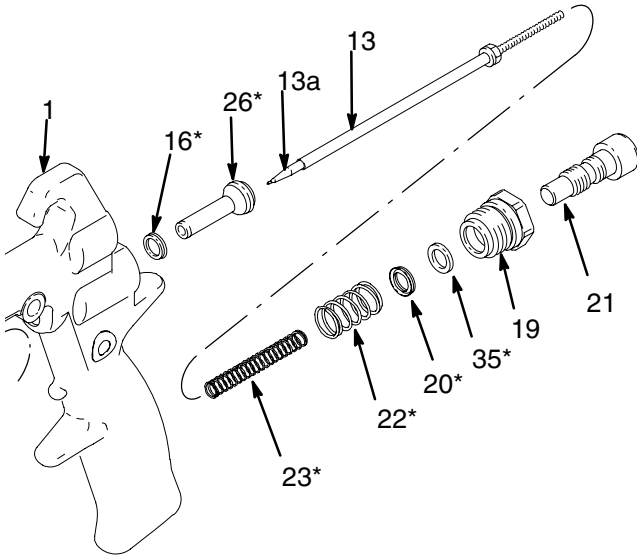
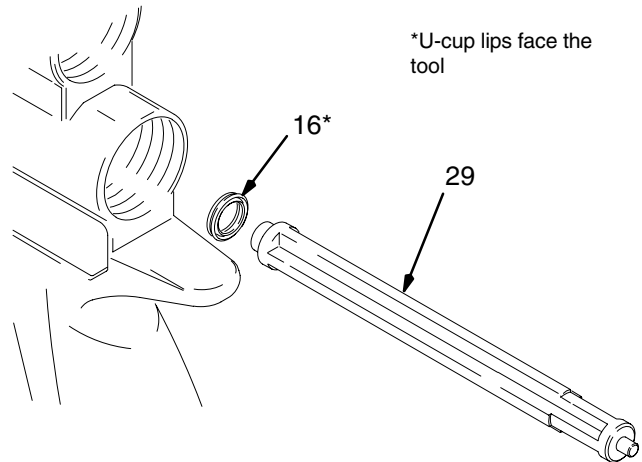
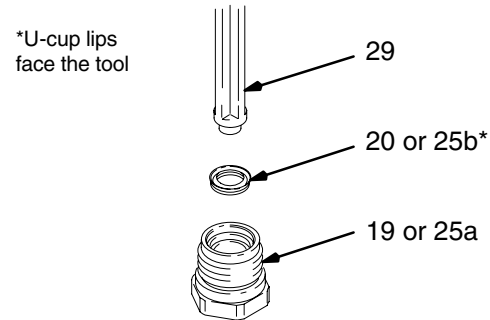

Fig. 26
Fig. 27
Fig. 28
4. One at a time, install the new u-cup packings (25b) with the packing installation tool (29); the u-cup lips must face toward the tool as shown in Fig. 28.
1. Remove the fluid valve nut (19), air valve spring (22), and air valve assembly (26). Discard the air valve assembly. See Fig. 26
2. Using a mechanical pick, remove the u-cup packing (16) from the gun body.
3. Place the new u-cup packing (16) on the packing installation tool (29), with the u-cup lips facing the tool as shown in Fig. 27.
4. Push the packing (16) into the back of the gun until a definite snap is felt.
5. Using a mechanical pick, remove the u-cup packing (20) and spacer (35) from the fluid valve nut (19). Be careful not to damage the seal surface or the nut's internal threads.
6. Install a new u-cup packing (20) with the packing installation tool (29); the u-cup lips must face toward the tool as shown in Fig. 28. This will help apply even pressure to the u-cup lips and avoid damaging them.
7. Push the u-cup packing (20) and spacer (35) into the fluid valve nut (19) until a definite snap is felt.